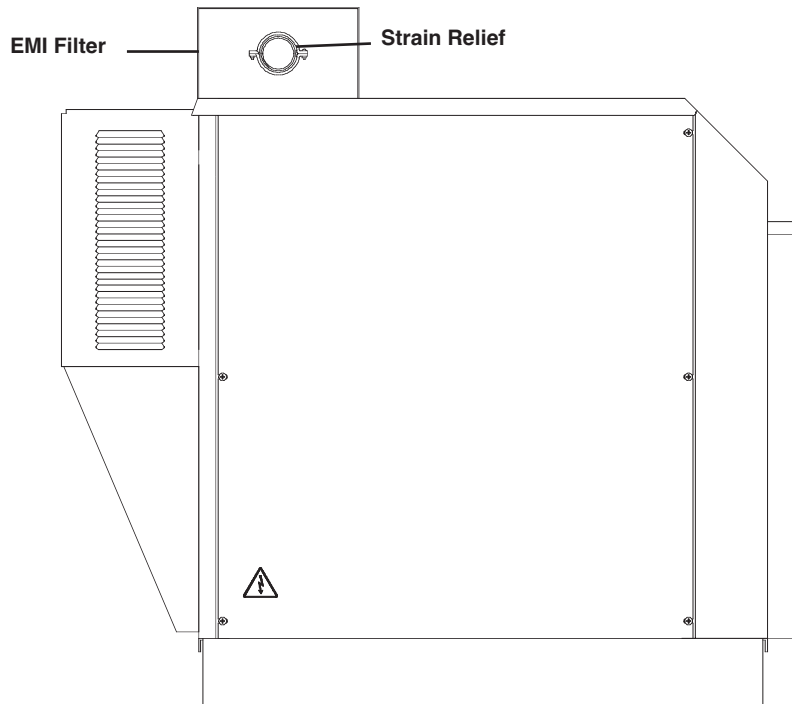

Figure a-1 MAX200 Power Supply with EMI Filter – Side View
1. Locate the EMI filter on the top rear of the power supply (see Figure a-1).
3. Insert the power cable through the strain relief (see Figure a-1).